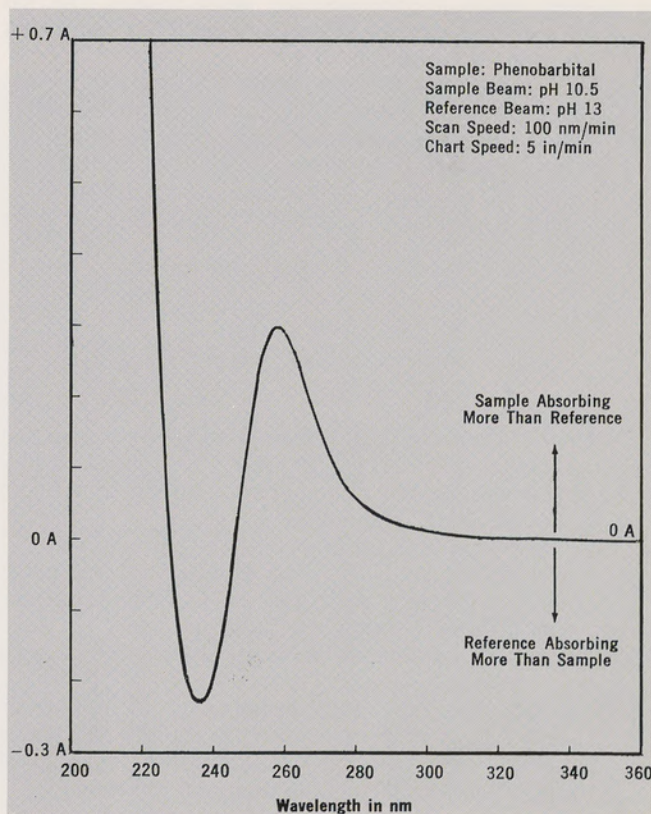

Figure 21. Differential Spectrum
The differential mode of operation allows adjustment of 0 A between 0 and 100 on the chart paper, depending upon which SPAN Pushbutton is depressed (it is recommended that differential measurements be made with the 1 A span) and the position of the ZERO SUPP Control. This feature makes it possible to analyze two samples of similar composition by placing one sample in the reference beam and the other sample in the sample beam and then recording the differential spectrum, Figure 21.
13. To start scan, depress START Pushbutton. When scan is finished, depress START Pushbutton to stop scan. A curve similar to the one in Figure 21 should be obtained.